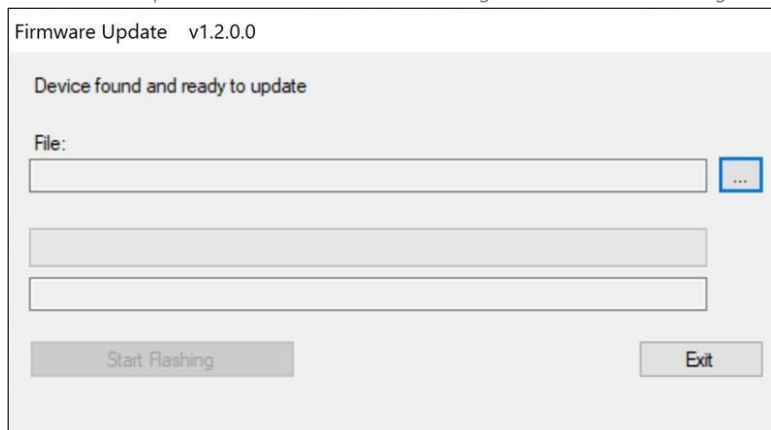

Figure 54 – Firmware update window.
9. Within LightBridge, select Firmware Upgrade from the *Tools* dropdown menu (Figure 53). The Firmware update window will appear (Figure 54).